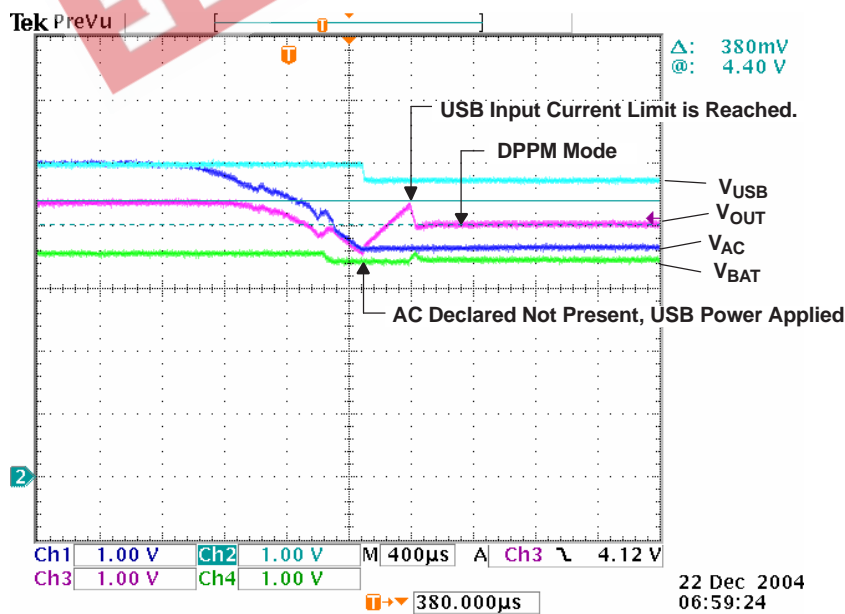

Figure 7. Remove AC – PWR XFER to USB
Figure 7 illustrates when AC is removed, power transfers to USB; PSEL = H (AC primary source); channel 1 (CH1) V_{AC} = 5.4 V; channel 2 (CH2) V_(USB) = 5 V; channel 3 (CH3) V_{OUT}; output current, I_{OUT} = 0.25 A; channel 4 (CH4) V_{BAT} = 3.5 V; and I_(PGM-CHG) = 1 A. The power transfer from AC to USB only takes place after the primary source (AC) is considered bad (too low, V_{AC} <= V_{BAT} + 125 mV) indicated by the \overline{ACPG} FET turning off (open drain not shown). Thus, the output drops down to the battery voltage before the USB source is connected (6th div). The output starts to recover when the USB FET starts to limit the input current (7th div) and the output drops to the V_(DPPM-REG) threshold.